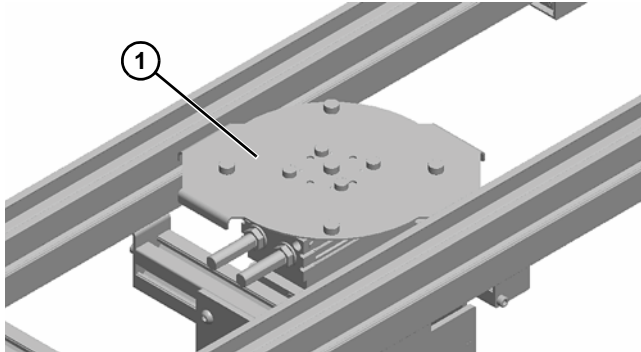

Figure 120
1. Remove lift and rotate plate (**Figure 120, item 1**) from lift assembly.